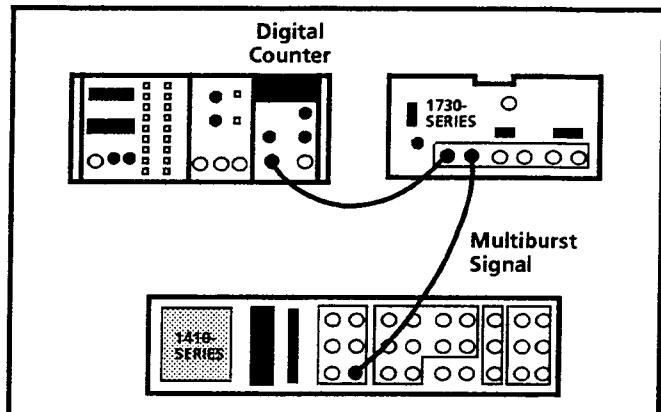

Fig. 5-5. Equipment hookup for checking 0.2  $\mu$ s timing .
- k. Connect the multiburst output from the television signal generator to the 1730-Series CH-A INPUT, and loop-through connect the signal to the digital counter. See Fig. 5-5.